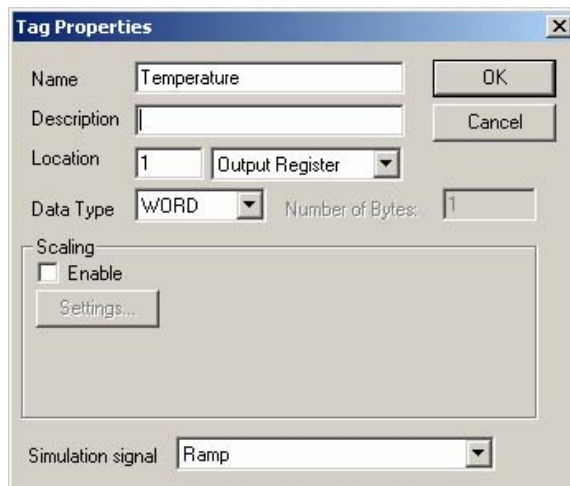

Figure 4 – Temperature Tag Properties
11. Give the tag a name and configure the tag with its properties. You can configure your tag similar to the properties shown in Figure 4.